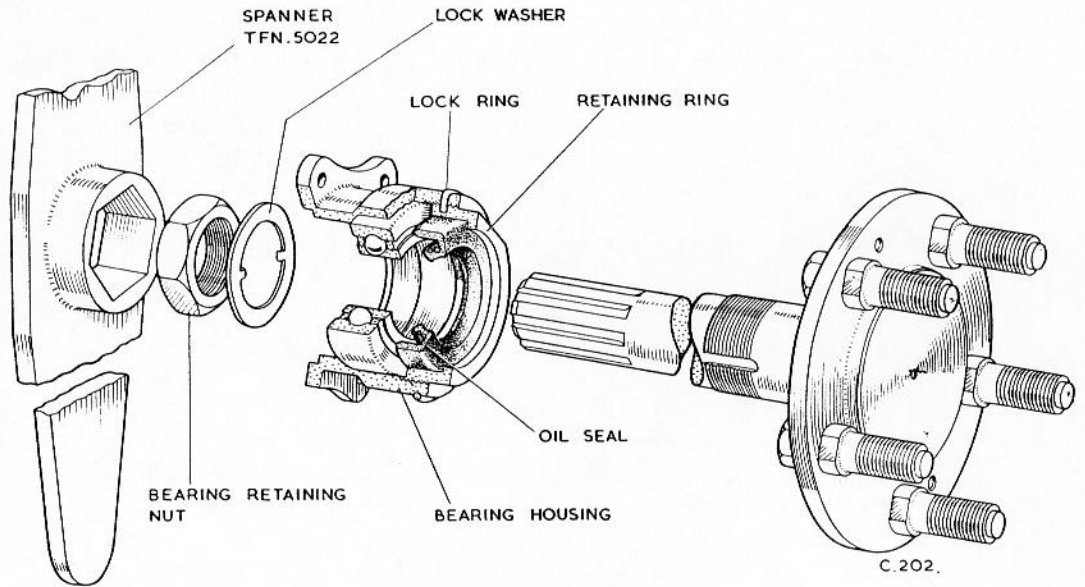

Fig.5 Rear hub assembly.
2. Bend back the lock washer fitted to the recess of the bearing housing and remove the bearing retaining nut with the spanner TFN.5022, see Fig.5.